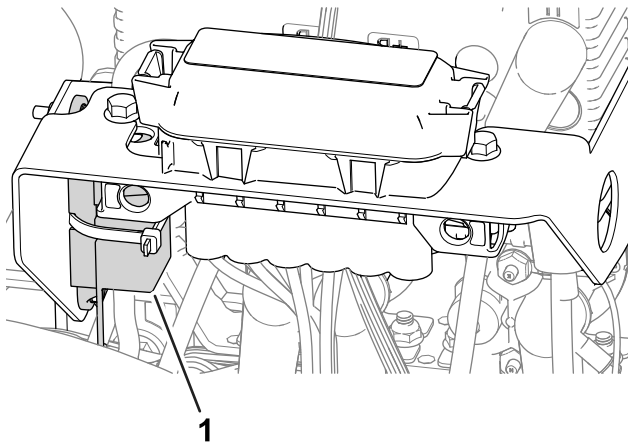

Figure 52
- The fuse for the left wheel motor (60 A) is located under the cover on the left side of the machine, near the reel-drive-circuit fuses (Figure 52).